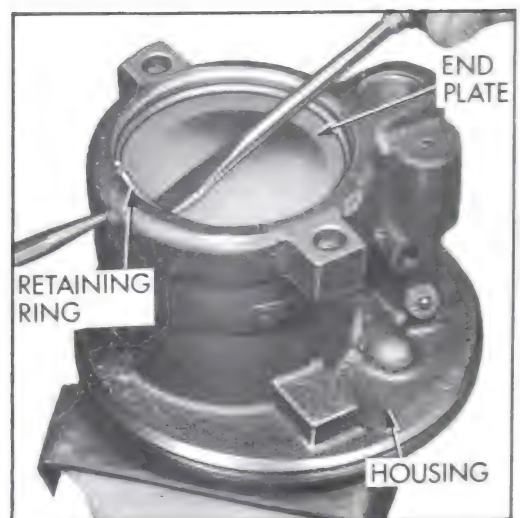

Figure 8-60—Removing End Plate Retaining Ring
8. Rotate end plate retaining ring until one end of ring is over hole in housing. Spring one end of ring with 1/8" punch to allow screwdriver to be inserted and lift ring out. See Figure 8-60.